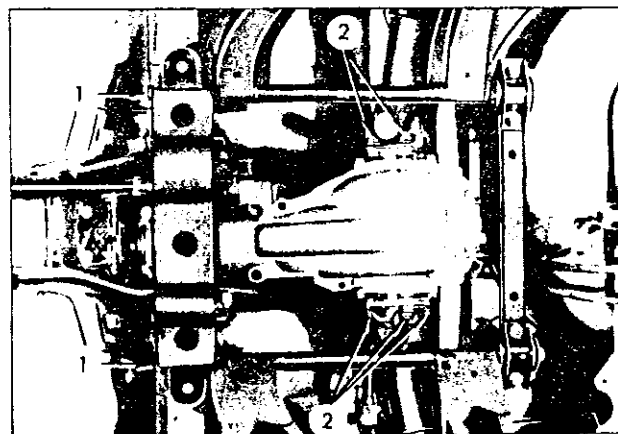

Fig. RA-18 Separating the drive shaft
5. Loosen the front side transverse link inner bolt (1). (Figure RA-18)
6. Remove the drive shaft installation bolt (gear carrier side) (2), and separate the drive shaft from the gear carrier.